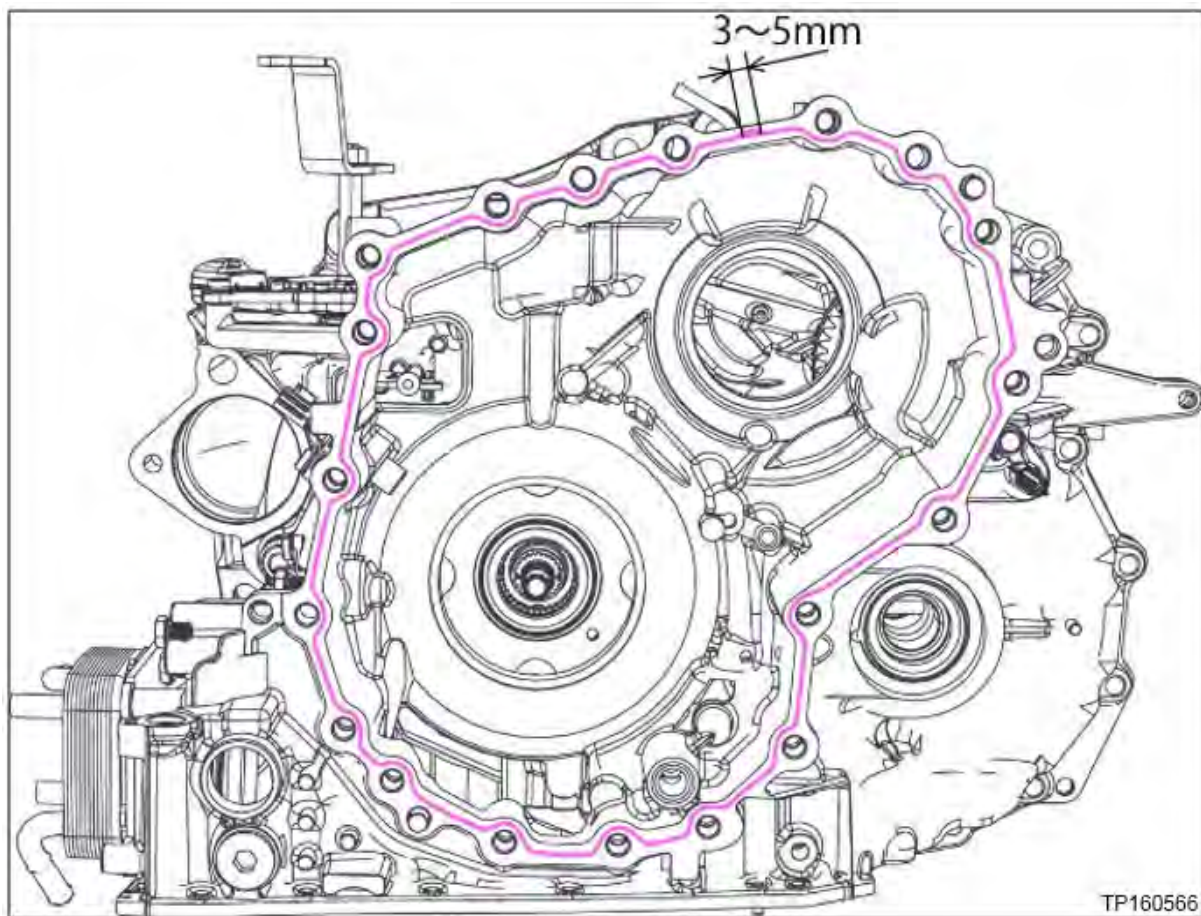

Figure 88
67. Apply one continuous 2.0 mm diameter bead of sealant along the center of the CVT case side mating surface (Figure 88).